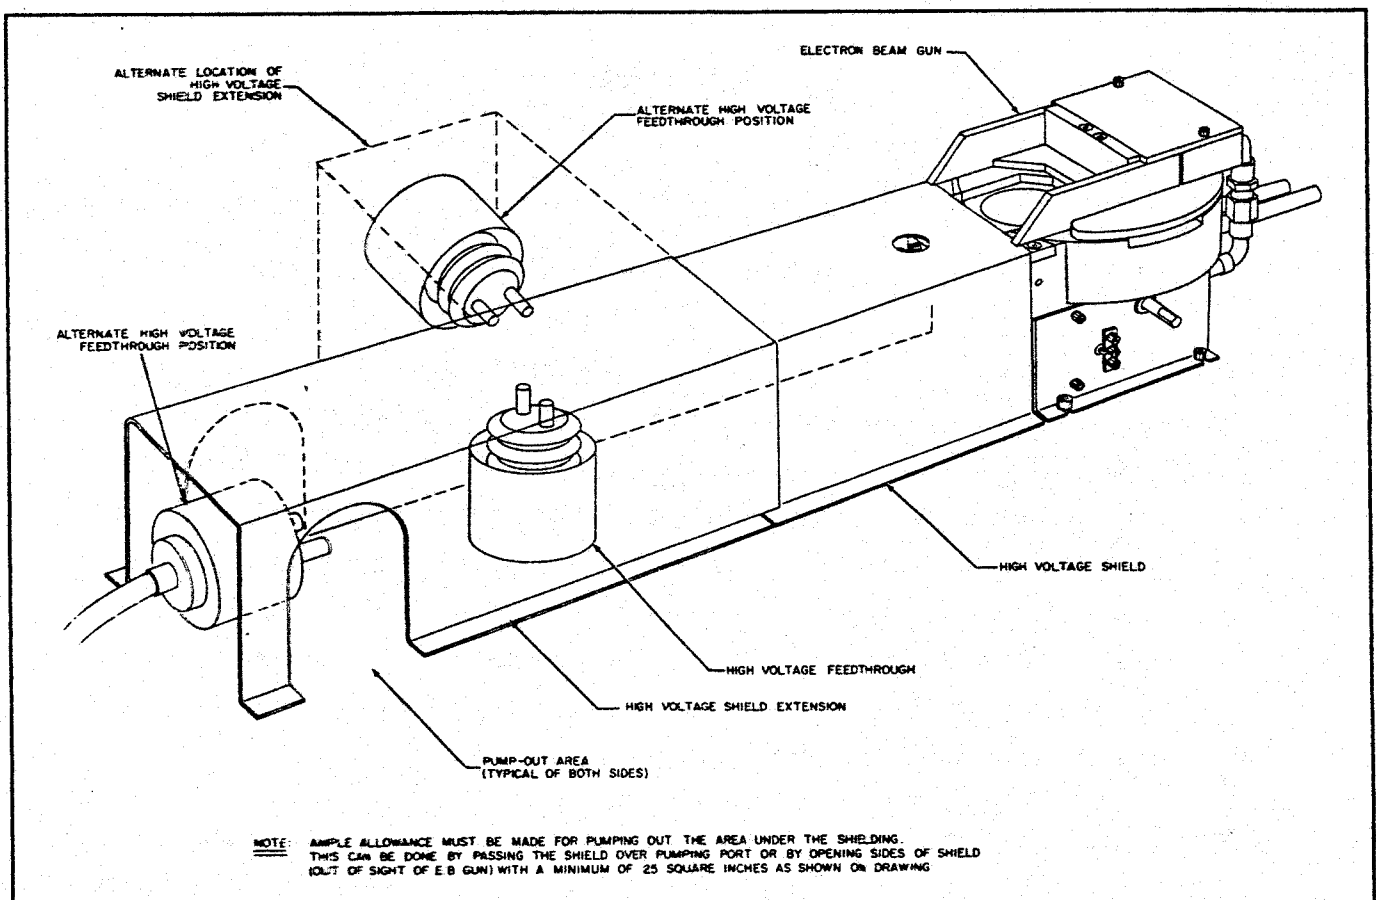

Figure 2-5. Typical Installation of High Voltage Shielding.
- (10) Install grounded shields over the entire length of both the high-voltage leads and around the high-voltage feedthrough to protect them from ions generated by the electron beam. Shielding should be installed in such a way that it can be removed without disturbing either the gun or other shielding, to facilitate maintenance. Figure 2-5 is a guide to proper shield installation. Shields may be formed from any non-magnetic metal compatible with the system. Stainless steel is recommended. Shields should be kept at a minimum of 1/4 inch (6mm) from the leads and high-voltage feedthroughs. Make certain grounded items are kept clear of the area within the high-voltage shield.
Ample allowance must be made for pumping out the area under the shielding. This can be done by constructing the shielding over the pumping port or by providing an opening on both sides of the shielding, out of sight of the electron beam gun, with a minimum area of 25 square inches (160 cm²) as shown in Figure 2-5.